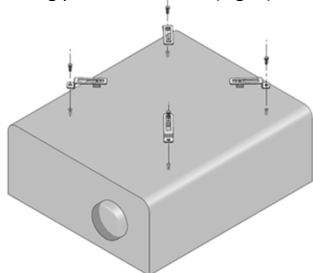

Fig.3
3. Fasten assembly grips to the projector using provided screws. (Fig. 3)